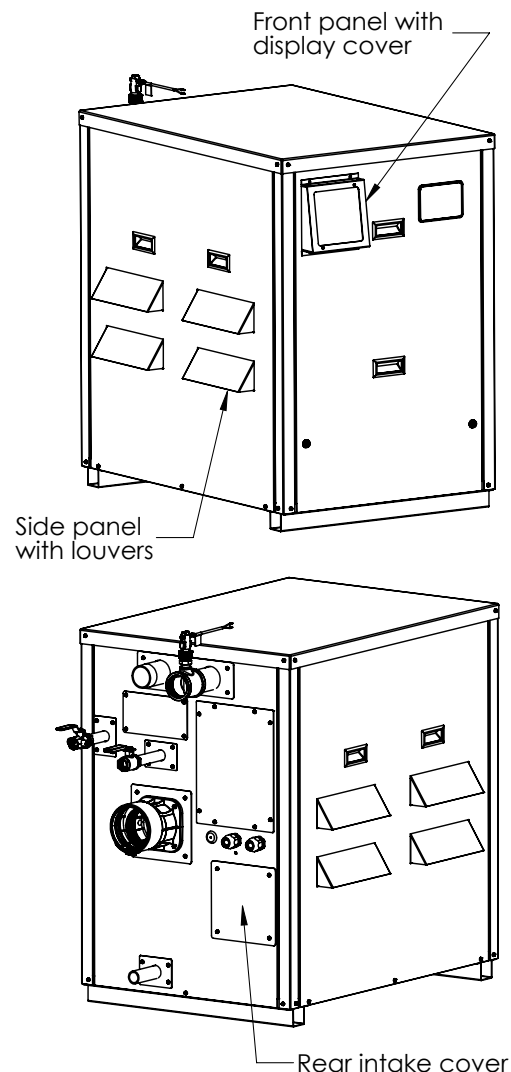

Figure 3: LBFIT with Outdoor Trim
4. Verify model size and whether the appliance is supplied with indoor or outdoor trim. See Figure 3.